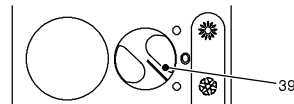

fig. 4.11
- 2 Make sure that the function switch (39) is set to the position in fig. 4.11 and that the room thermostat, if fitted, is set to “call for heat”.